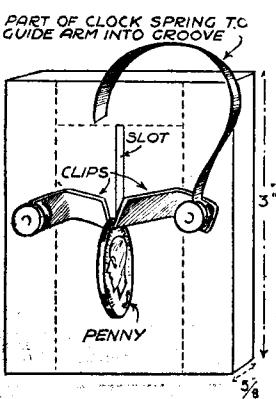

Fig. 7.—Showing a coin held between the contact strips.
Another application to which this new Westector lends itself is shown in Fig. 7, where it is used to obtain an A.V.C. voltage from the anode of an existing detector valve. The Westector is connected to the anode of the valve in place of the usual H.F. by-pass condenser, and the H.F. used to generate a voltage across the load resistance R. This voltage is fed back to the grid of the preceding variable-mu valve to obtain A.V.C. in the usual manner.
To make this device, an alarm clock, an old .0005 variable condenser, a piece of three-ply wood, 7in. by $\frac{1}{8}$ in., two spring clips, two small brass strips, four small cubes of wood, a pair small hinges, and a few screws and bolts are required. First of all, get a piece of $\frac{1}{8}$ in. plywood 14in. by 9in., and cut a hole in it the exact size of the glass of the clock. Then cut a second piece of plywood into a hexagon with sides about 3in., and in that cut a hole just large enough to allow the minute marks on the dial to be seen from the front when the clock is fixed. Glue this piece on to the 14in. by 9in. piece in the exact position; that is, at the other hole. Now screw the clock at the back on to the front piece (the case is off and the feet and the ring holes are bent to allow for screwing) with three screws. Measure along from the winding screw of the clock about 3in. and cut a hole 3in. by 1in. When that has been done, take a piece of wood about 8in. by $\frac{1}{8}$ in. by $\frac{1}{8}$ in. and cut two pieces 3in. and two 1in. long, then with them make a box as shown in Fig. 7. Glue that behind the hole in the front piece, leaving the hole flush. Get a small piece of 3-16in. plywood of suitable size to cover the box already made and fix on the spring clips so that the opening at the extreme ends of the clips is slightly narrower than the two brass strips, which are about 1 $\frac{1}{2}$ in. long by $\frac{1}{8}$ in. wide, and must be slightly
Messrs. Ferranti employ two alternative methods. Namely: (1) A multiple circuit of some twenty effective turns obtained in the manner already described (Method D), in which the upper part of the circuit consists in a number of hoops of copper rod, the prongs of which dip into mercury cups when the circuit is closed, the said cups being interconnected in such manner as to provide as many turns as there are hoop, Figs. 7 and 8. It has already been pointed out that a weakness of this system is the low conductivity of mercury (about 1/100th that of copper). And (2) a transformer system of which the following figures may be taken as typical:—